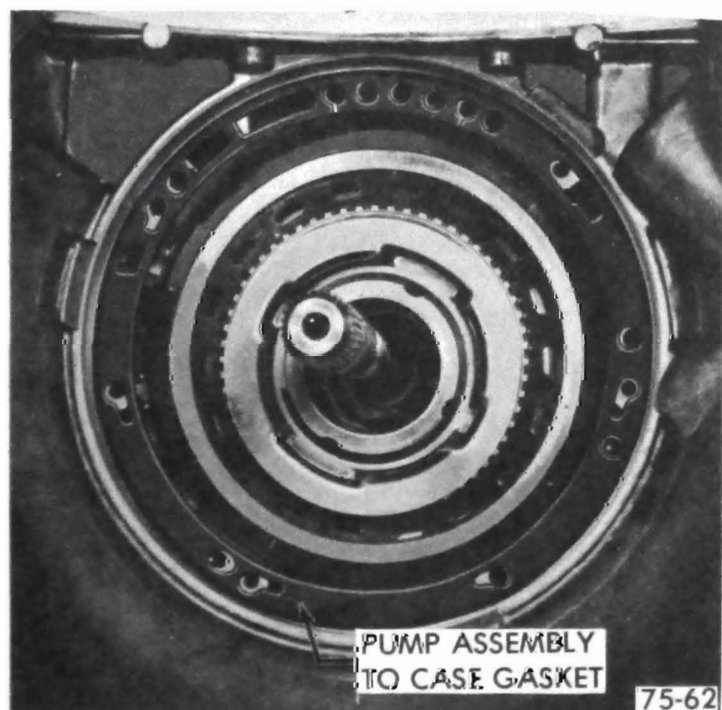

Figure 75-92
3. Remove pump assembly to case gasket and discard. See Figure 75-92.